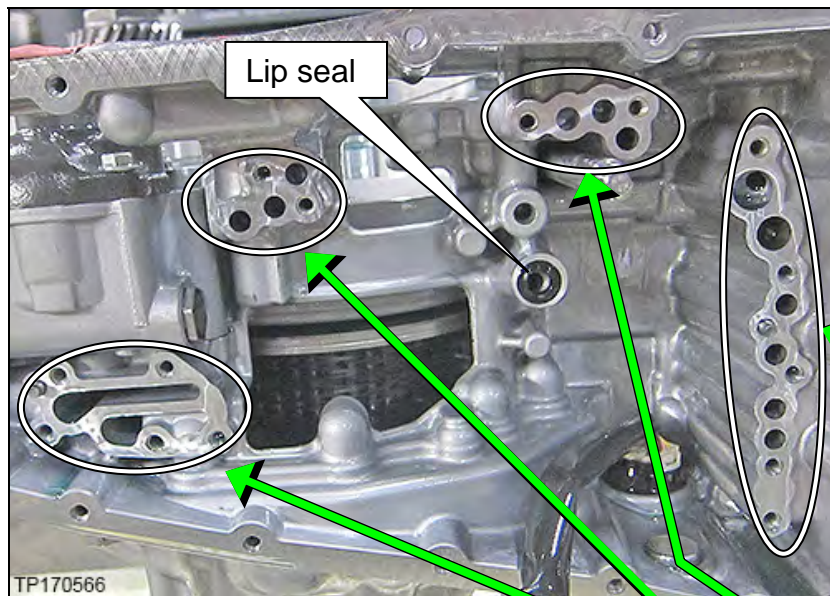
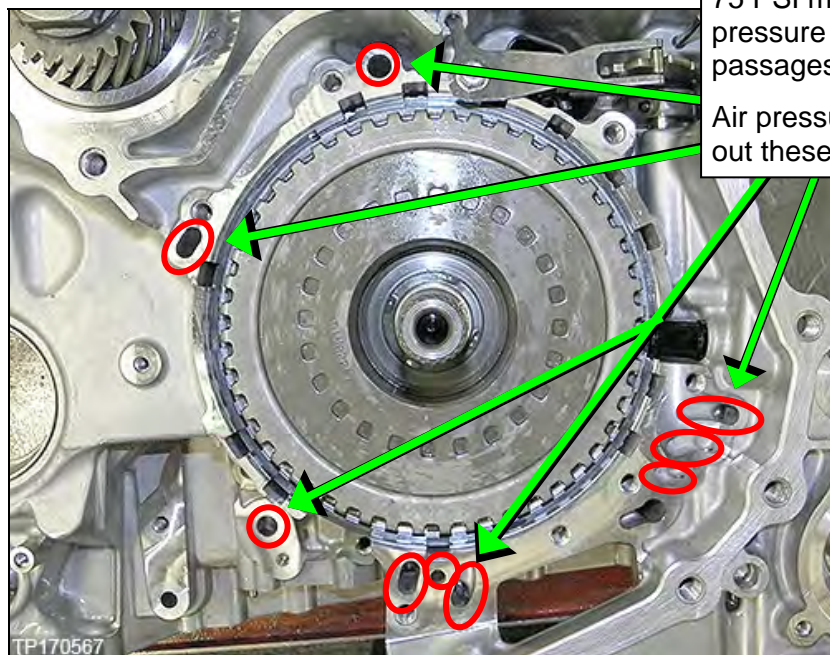

Figure 4C
Figure 5C
4. Spray brake clean in all oil passages of the CVT case where shown in Figure 4C and Figure 5C.